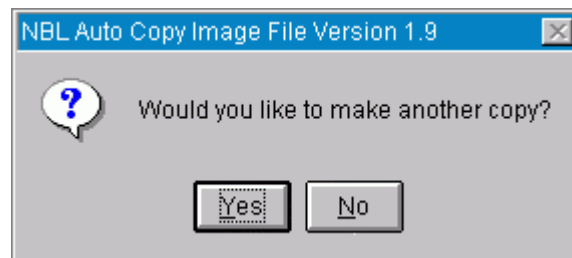

Figure 8
7. Create the remaining five diskettes, "EMC Firmware 2 of 5", "EMC Firmware 3 of 5", "EMC Firmware 4 of 5", "EMC Firmware 5 of 5", and "EMI Measurements" using the same process for generating the previous diskettes. After all seven firmware upgrade diskettes have been created, the text box shown in **Figure 8** will be displayed.